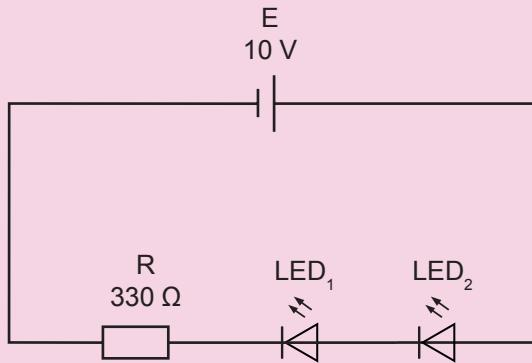

Figure 7.43
1. For the circuit in Figure 7.43: